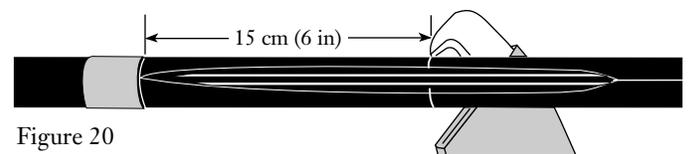

Figure 20
6.9 At a point approximately 15 cm (6 in.) from the tape wrap, use the hook blade knife to score a ring cut around the sheath. Do not cut completely through the sheath or damage the GRP rods (Figure 20).